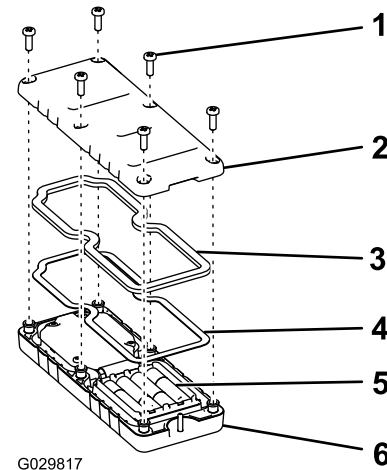

Figure 8
2. Plug each battery into a terminal cradle observing proper polarity (Figure 8).
3. Ensure that the steel gasket and rubber seal are seated in the channel in the remote and set the back cover in place (Figure 8).
4. Secure the cover with 6 screws (Figure 8) and torque them to 1.5 to 1.7 N-m (13 to 15 in-lb).